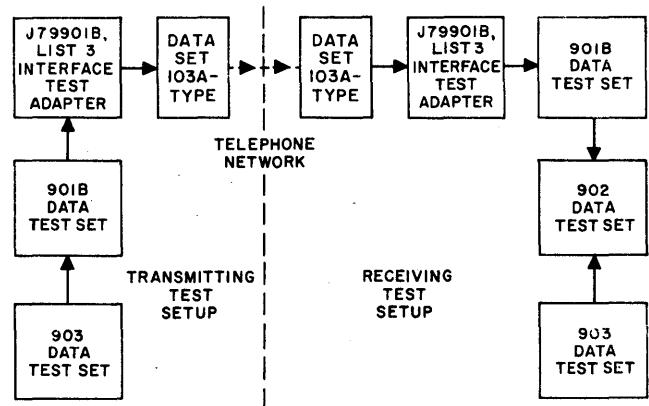

Fig. 4 — End-to-End Test, Block Diagram
6.03 A block diagram illustrating the equipment set up for end-to-end tests is shown in Fig. 4.